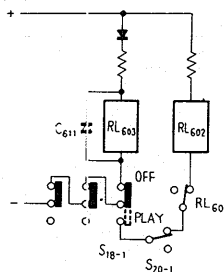

Fig. 6
• Take-up Torque Control at Playback (Fig. 6 . 7)